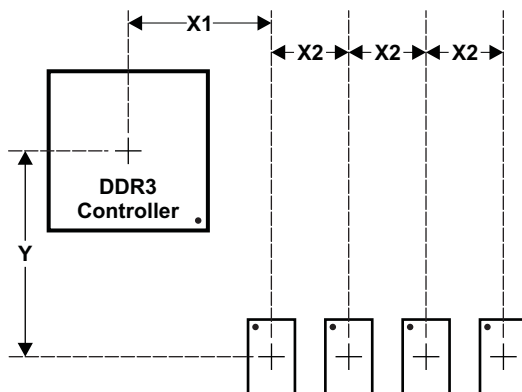

Figure 9-15. Placement Specifications
Figure 9-15 shows the required placement for the processor as well as the DDR3 devices. The dimensions for this figure are defined in Table 9-19. The placement does not restrict the side of the PCB on which the devices are mounted. The ultimate purpose of the placement is to limit the maximum trace lengths and allow for proper routing space. For a 16-bit DDR memory system, the high-word DDR3 devices are omitted from the placement.
- (1) For dimension definitions, see Figure 9-15.
(2) Measurements from center of processor to center of DDR3 device.
(3) Minimizing X1 and Y improves timing margins.
(4) w is defined as the signal trace width.
(5) Non-DDR3 signals allowed within DDR3 keepout region provided they are separated from DDR3 routing layers by a ground plane.
(6) Note that DDR3 signals from one DDR3 controller are considered *non-DDR3* to the other controller. In other words, keep the two DDR3 interfaces separated by this specification.